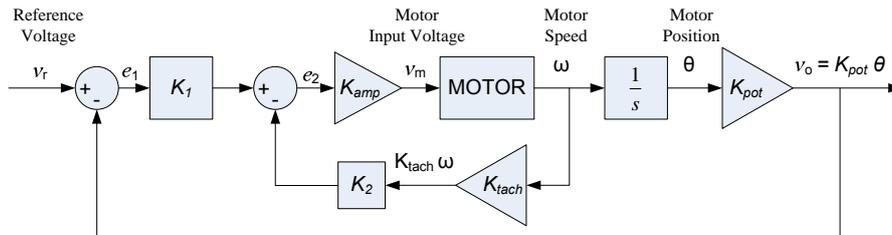
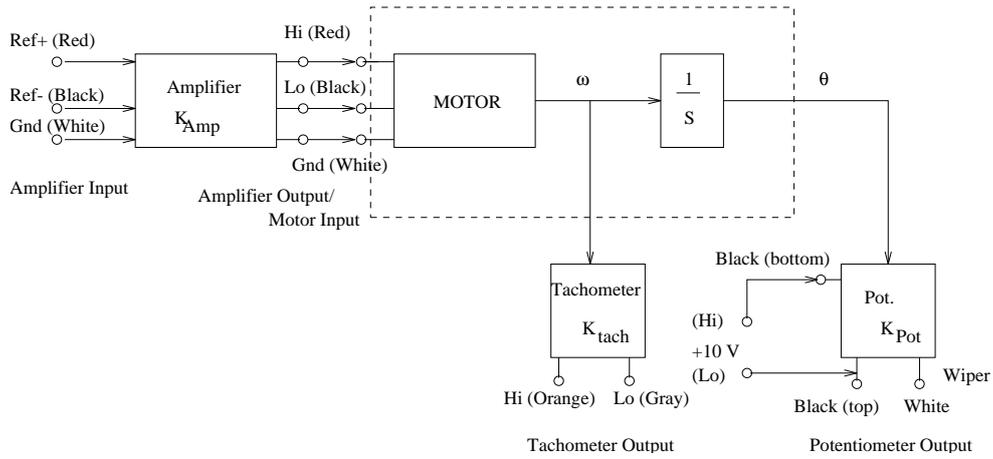
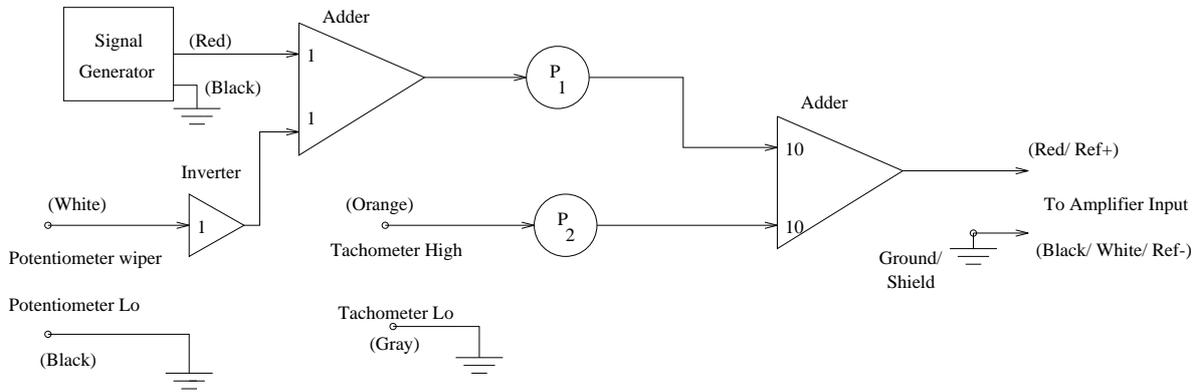

Figure 5.1: A Feedback Control System for the DC Motor
Figure 5.2: Motor Block Diagram.
Figure 5.3: Analog Computer Wiring Diagram.
- (b) We next consider the design of a closed-loop position control system using PD control. The structure is shown in Figure 5.1. For the sake of concreteness, assume from now on that the block MOTOR has the transfer function
In the lab, we will connect the system illustrated in Figure 5.2 to the analog computer set up shown in Figure 5.3, to create the closed-loop system of Figure 5.1. We are then interested in the voltage from the potentiometer, the output of the system, and how it behaves as the reference input voltage  $v_r$  is varied. This reference input will be supplied by the HP waveform generator.
- (e) Draw a wiring diagram for the analog computer setup shown in Figure 5.3 ( $P_1$  and  $P_2$  are variable). (This diagram implements the PD control law.)
7. To understand what portion of the control loop is accomplished in SIMULINK, refer to Figure 5.1. The analog (ADC) inputs to the C2000 DAQ Board are  $V_{\text{pot}} = v_o$  and  $V_{\text{tach}} = K_{\text{tach}} \cdot \omega$ . These are the feedback signals. The analog (DAC) output from the C2000 DAQ Board is  $e_2$ . This is the control effort. Therefore everything between the inputs and the output will be done in software on the C2000 DAQ Board. You will also output  $v_r$  for display on the oscilloscope.